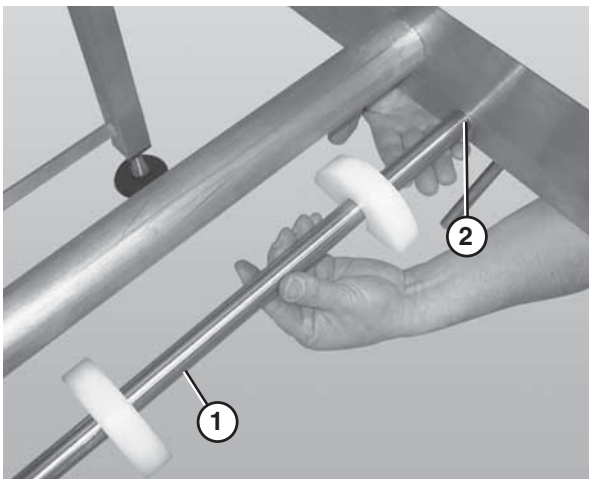

Figure 62
1. Remove the belt returns by pushing up on the return shaft (Figure 62, item 1) and sliding it through the large hole (Figure 62, item 2) in the frame.
2. Lower the opposite end of the return shaft (Figure 62, item 1) and slide it out of the frame.